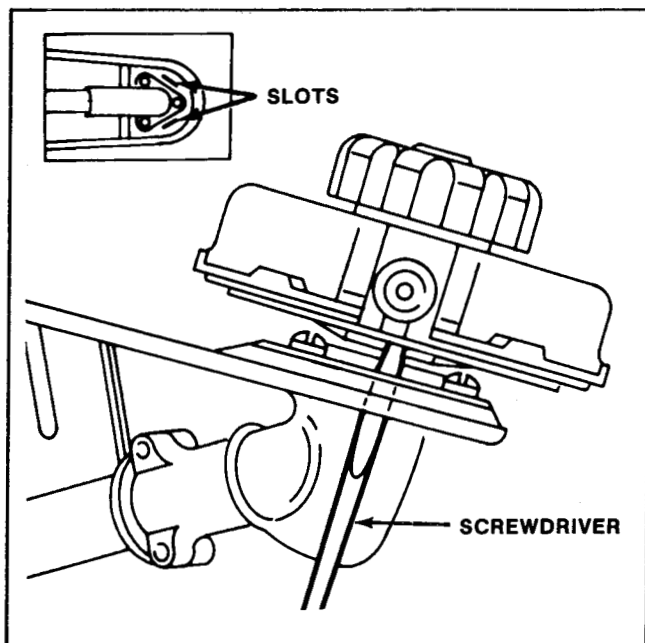

Figure 124
1. Remove the cutter implement by inserting a flat blade screwdriver into the hole in the top of the shield, then rotating the cutter implement clockwise (as viewed from the bottom of the trimmer). See Figure 124.